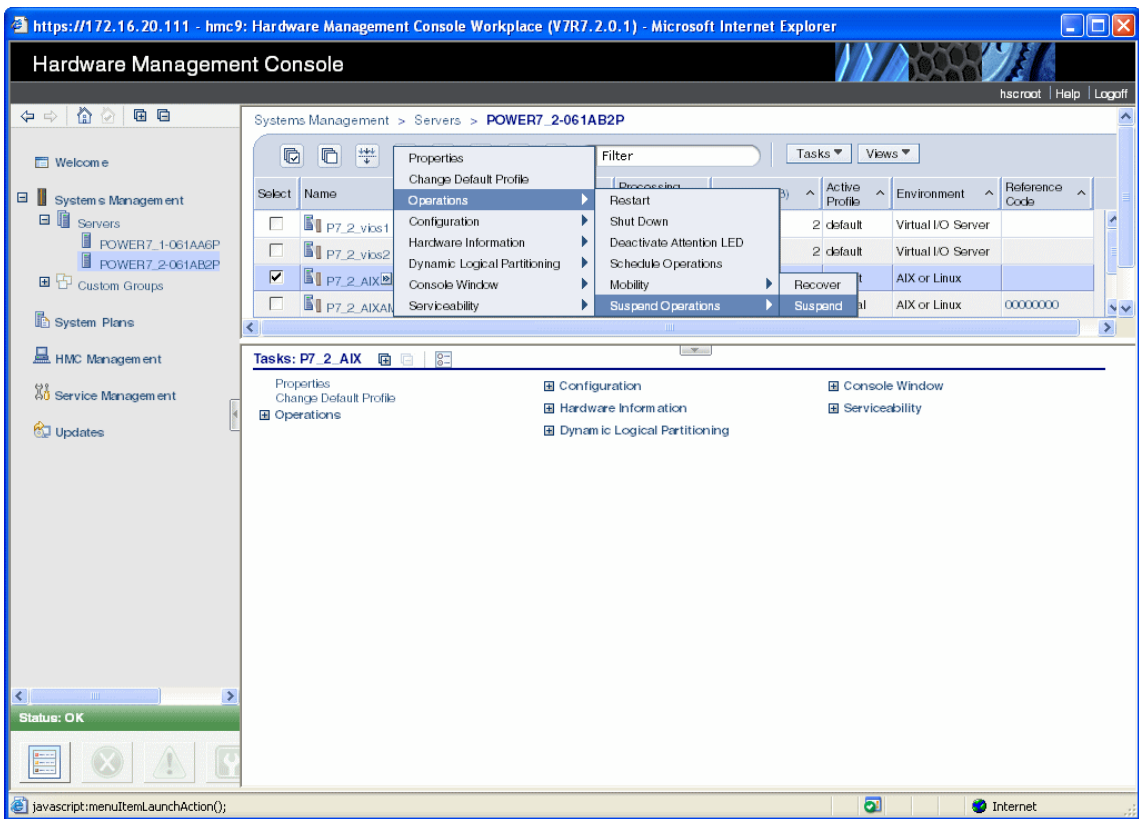

Figure 17-27 Partition suspend menu
1. On the HMC, select the partition you want the suspend validation to be performed on, then select **Operations** → **Suspend Operations** → **Suspend** as shown in Figure 17-27.
1. On the HMC, select the partition you want to suspend, then select **Operations** → **Suspend Operations** → **Suspend** as shown in Figure 17-27 on page 658.